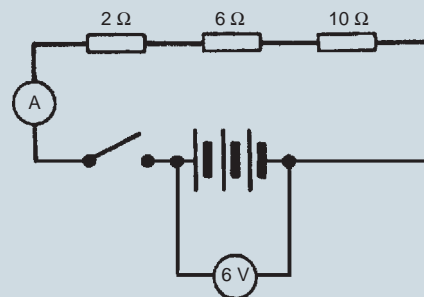

Figure 7.57
6. With the switch in Fig. 7.57 closed the ammeter reading will indicate: (a) $108\ \text{A}$ (b) $\frac{1}{3}\ \text{A}$ (c) $3\ \text{A}$ (d) $4\frac{2}{3}\ \text{A}$
7. A 6Ω resistor is connected in parallel with the three resistors of Fig. 7.57. With the switch closed the ammeter reading will indicate: